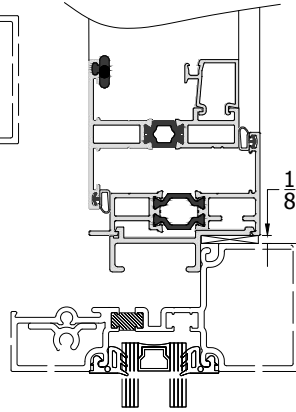
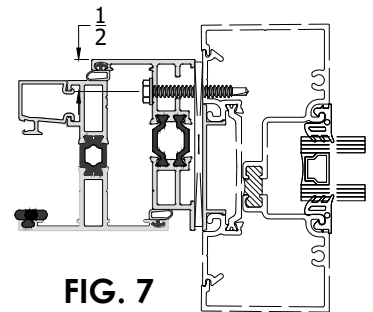

FIG. 4
FIG. 7
- Place appropriate horseshoe shims around the perimeter, ensure window is square and plumb. Fasten the jambs of the frame **FIG 7**, refer to **FIG. 4 on Page 8** for spacing schedule .